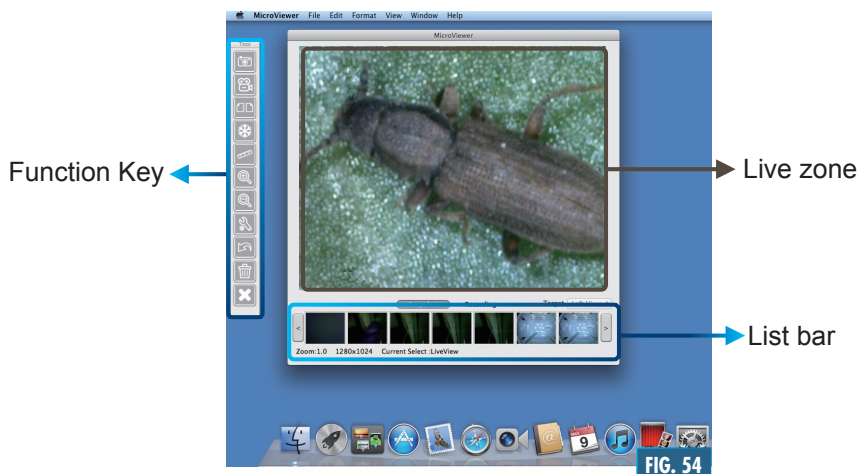

FIG. 54
2. The MicroViewer 5MP window will show up and you should see the live image from the Microscope (Fig. 54).